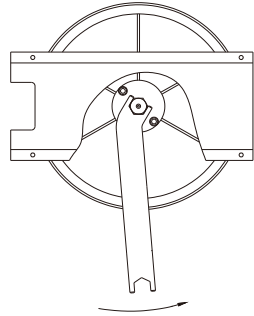
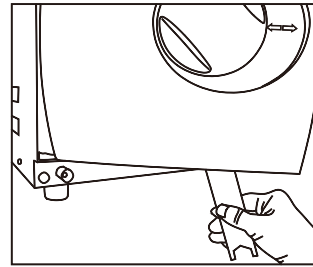

Fig 1
Fig 2
7.4.2 Insert the spanner tool in the gap beneath the plastic cover; use the spanner to grip the adjusting nut (Fig. 1). Turn the nut counter clockwise as the figure below (Fig 2). This will tighten the sealing plate.